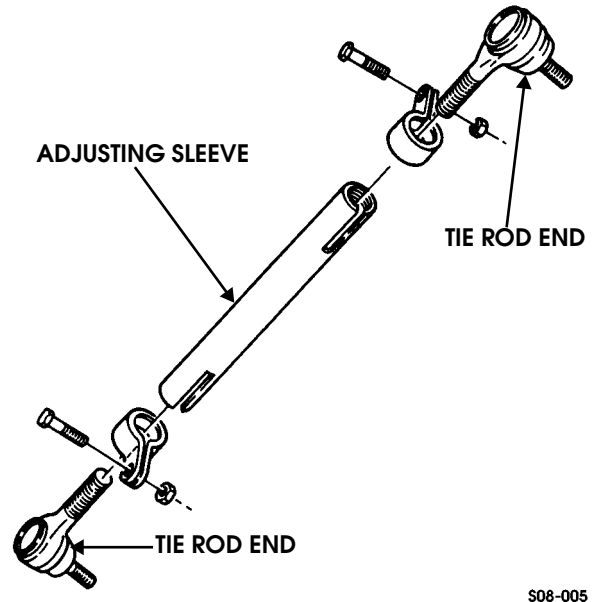

Figure 8-6: Tie Rod Component Parts
1. Loosen two locknuts and clamps securing tie rod ends to adjusting sleeve (Figure 8-6).